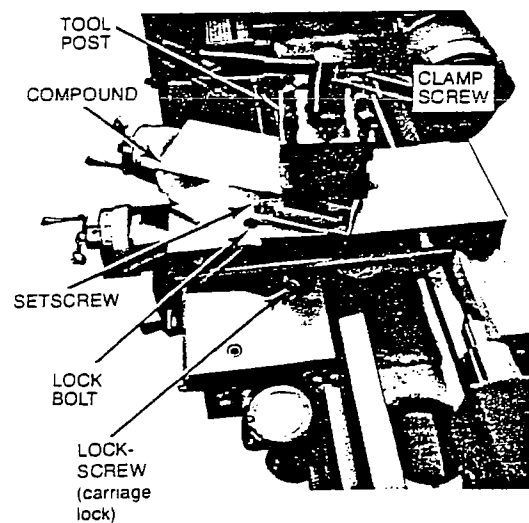

FIGURE 21
1. Before starting a cut, position four-way tool post on compound by means of clamp screw (Figure 21).